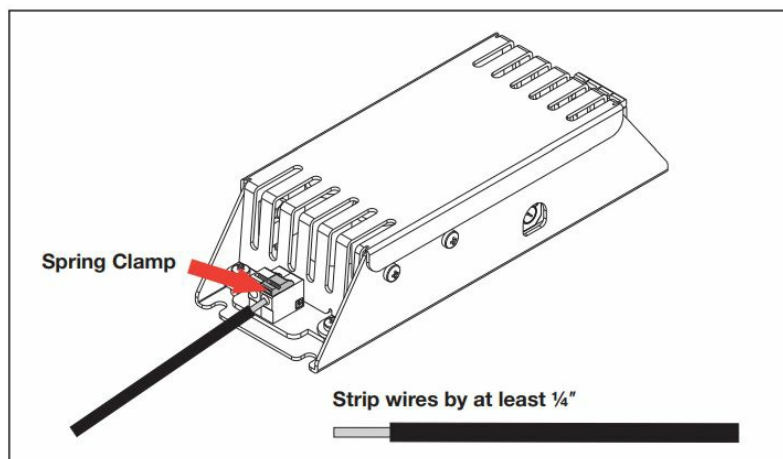
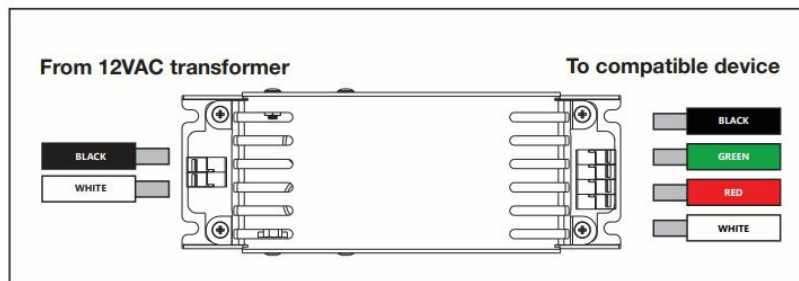

Figure 4. Wire stripping and insertion
Figure 5. RGB wiring
- Refer to Figure 4 for wire stripping and insertion, Figure 5 for RGB wiring, and Figure 6 for RGBW wiring.
2. Attach each of the four or five wires to the Smart Sync LED Adapter by pushing back an orange spring clamp and inserting the correct wire below. If needed, push back the orange spring clamps to release wires. See Figure 4 for wire stripping and insertion, Figure 5 for RGB wiring, and Figure 6 for RGBW wiring.